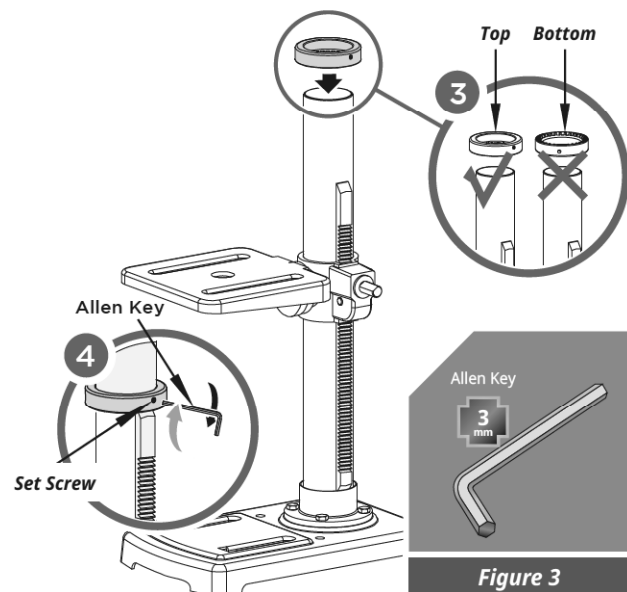

Figure 3
3. Slide the collar over the column tube with beveled edge facing down until it presses against the top of the rack. (See Figure 3 illustration 3)
4. Tight the set screw, but do not overtighten it. (See Figure 3 illustration 4)